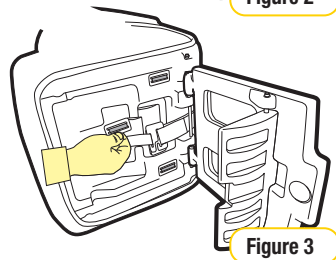

Figure 3
- Step 4:** To release the buckle / crotch strap pass the three bar slides attached through the crotch slot holes in seat section (see Figure 3).
- Step 1:** Connect the buckle/crotch strap by feeding the three bar slides on the crotch strap through the holes in seat section (see Figure 3).